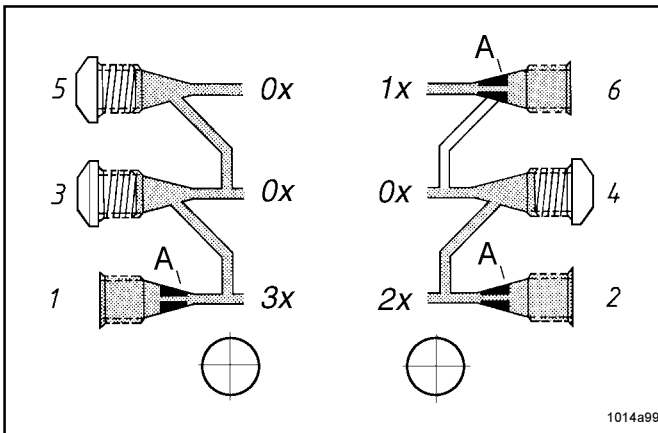

Fig.1 - Single double and triple lubricant output
- Lubricant from a plugged outlet is redirected to the next outlet on the same side of the SSV divider block in descending numerical order (see Fig.1). For instance plugging outlets 5 and 3 will triple the amount of lubricant at outlet 1.
\* Install a closure plug in each outlet port hole which is not required, see Fig. 1 or 4.
**Important:** One complete check valve must be installed in each outlet port hole used, see Figs. 1 & 4 to avoid draining the oil reservoir.